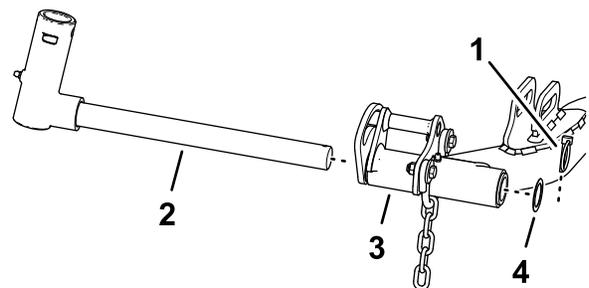

Figure 27
1. Remove the lynch pin and washer securing the to the lift-arm pivot shaft to the lift arm, and slide the pivot shaft out of the lift arm (Figure 27).